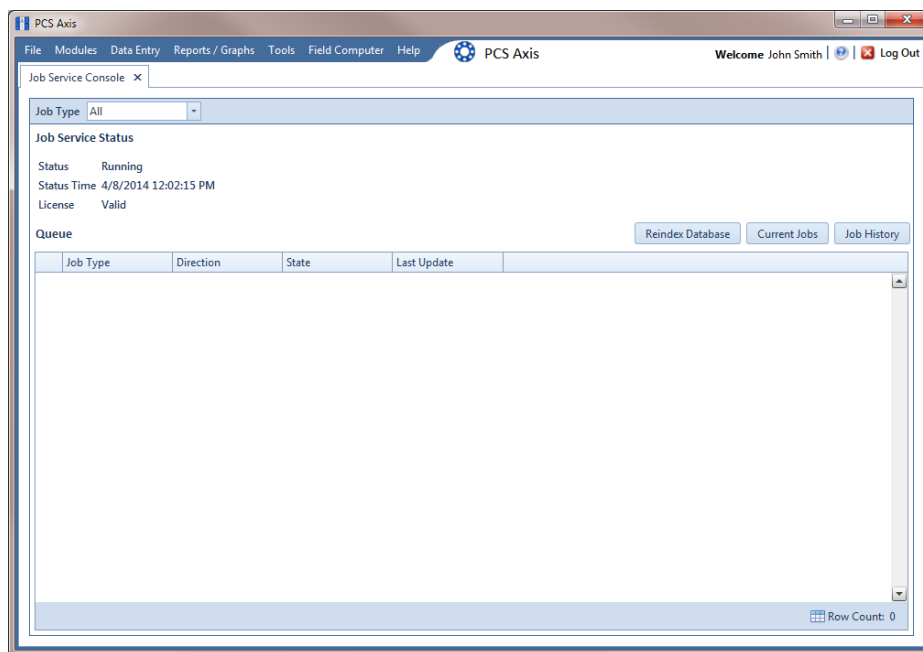

Figure 2-4. Valid Bridge License
- 5 Verify **Running** displays in the *Status* field and **Valid** displays in the *License* field (Figure 2-4). If these messages are not currently displayed, please contact PCS Technical Services for assistance at pcstechservices@aiworldwide.com.